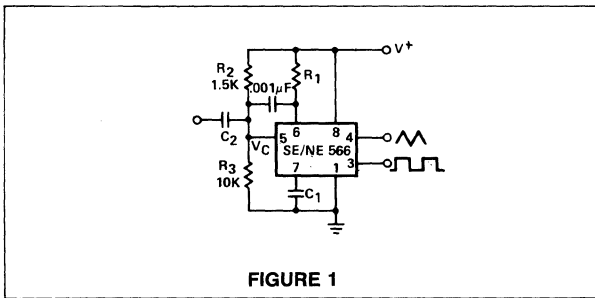

FIGURE 1
The SE/NE 566 Function Generator is a general purpose voltage controlled oscillator designed for highly linear frequency modulation. The circuit provides simultaneous square wave and triangle wave outputs at frequencies up to 1 MHz. A typical connection diagram is shown in Figure 1. The control terminal (pin 5) must be biased externally with a voltage (VC) in the range
where V_{CC} is the total supply voltage. In Figure 1, the control voltage is set by the voltage divider formed with R_2 and R_3 . The modulating signal is then ac coupled with the capacitor C_2 . The modulating signal can be direct coupled as well, if the appropriate dc bias voltage is applied to the control terminal. The frequency is given approximately by